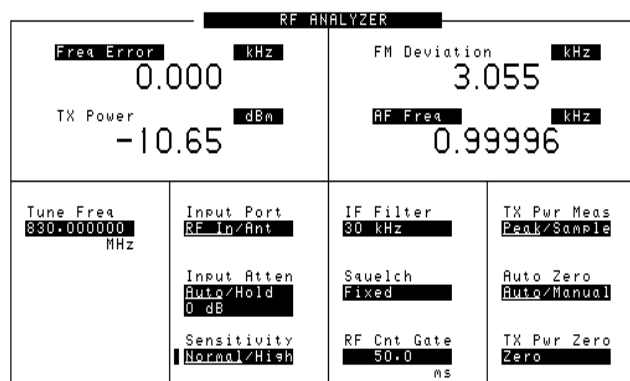

Figure 4. RF ANALYZER Screen on the E6380A Test Set
2. Press the **RF Analyzer** key on the front panel of the E6380A. The RF ANALYZER screen appears (see Figure 4).